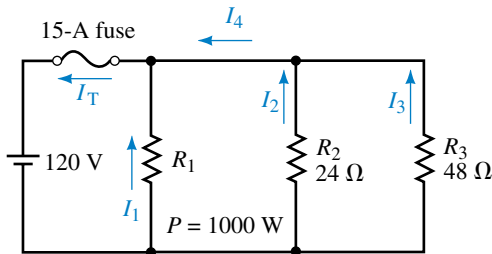

FIGURE 6–88
44. a. For the circuit of Figure 6–88, calculate the value of R_3 which will result in a circuit current of exactly $I_T = 15$ A.